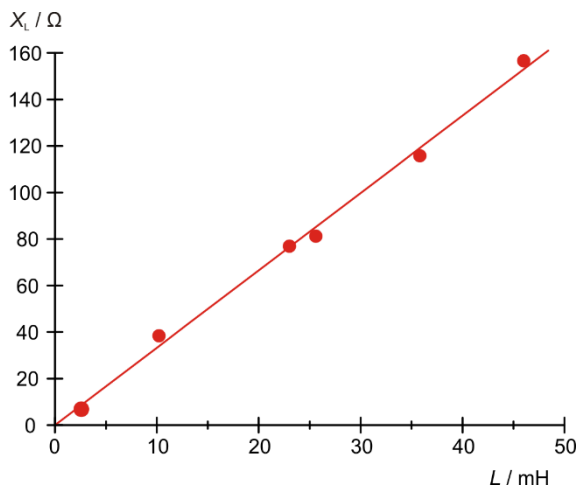
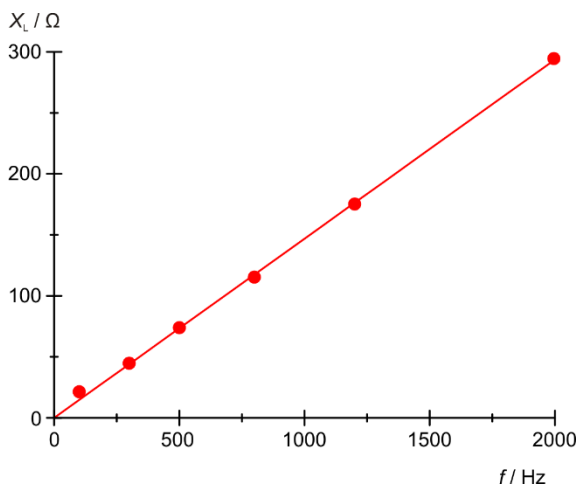

Fig. 4: Inductive impedance X_L as a function of inductance L .
Fig. 5: Inductive impedance X_L as a function of frequency f .
- Plot the inductive impedance values X_L against inductance (Table 1, Fig. 4) and frequency (Table 2, Fig. 5).